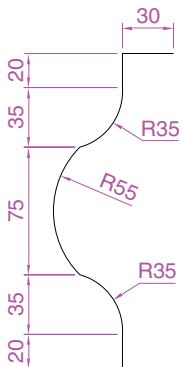

Fig. 5.8 First example – **Mirror** – outline
1. Construct the outline in Fig. 5.8 using **Line** and **Arc**.